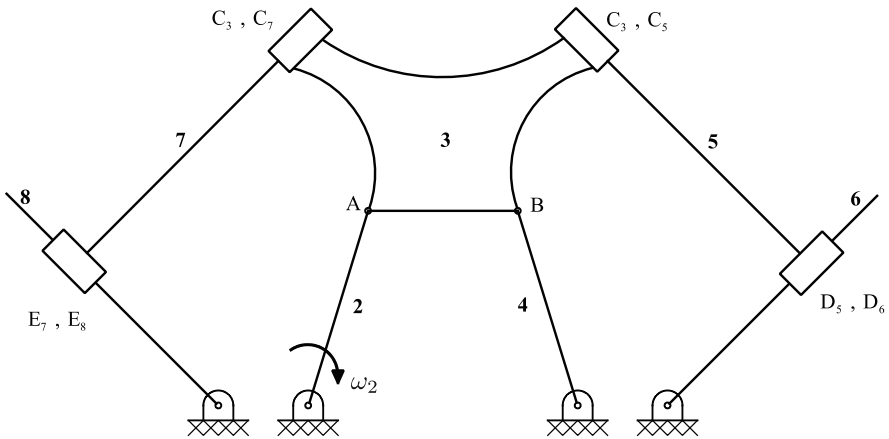

Fig. 2.39 An eight-bar lever
3. The eight-bar lever in Fig. 2.39 is under ω_2 . Given the degree of freedom, which of the following equations is true for the value of the rotational velocity of the levers?